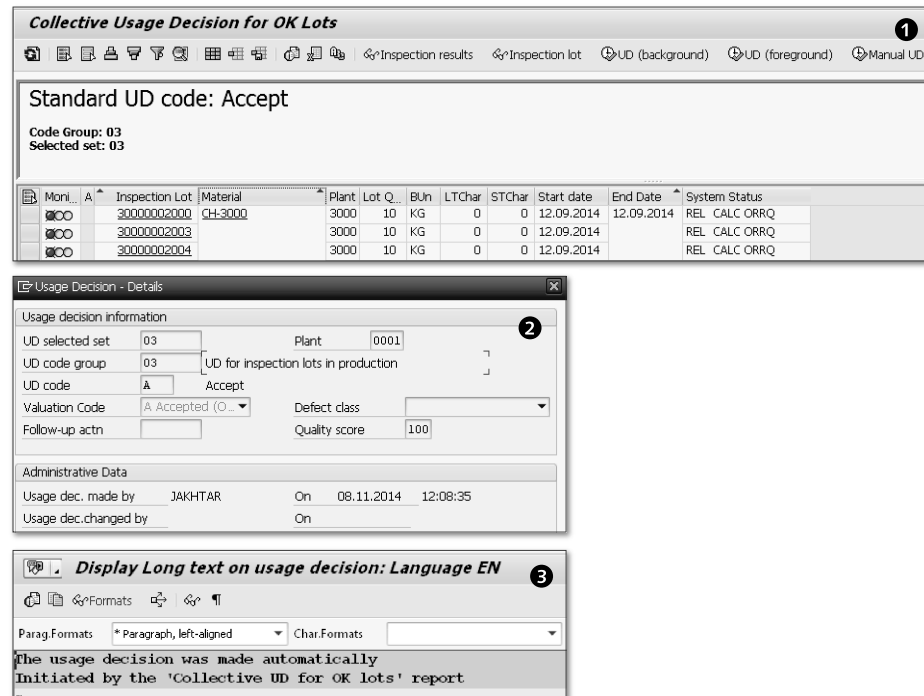

Figure 3.25 Collective Usage Decision and Log
Choose EXECUTE to go to Figure 3.25. ❶ consists of a list of quality inspection lots for which you can perform a collective UD. You have three options in performing collective UD:
You can select multiple inspection lots in Figure 3.25 and perform a collective UD function. To do so, choose SELECT ALL or choose selected inspection lots and perform a collective UD function.
Let's check out whether the system automatically and correctly assigns the UD code A to the inspection lot 30000002000. To view an inspection lot, use Transaction QA03 and enter the inspection lot number, which in this example is 30000002000. Figure 3.25 ② shows the display view of the inspection lot